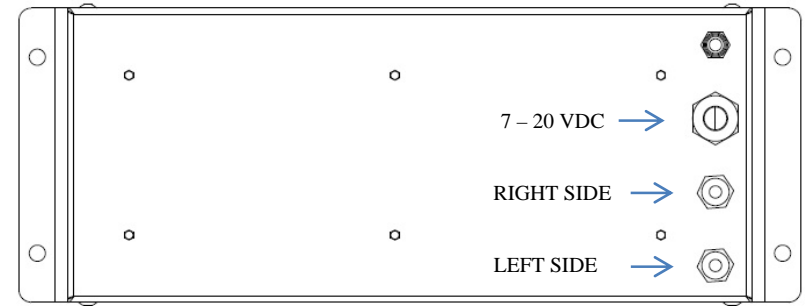

Figure 2. Back Side of Display Unit
2. Insert tank/line airlines into inlet ports as marked in Figure 2.